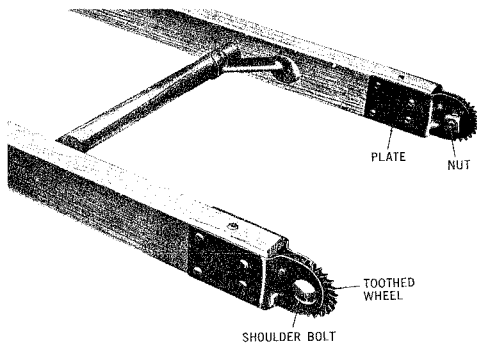

Fig. 43 — Wheel Spurs
**14.08** To adjust a worn or dull wheel spur, remove the nut, lockwasher and shoulder bolt. Rotate the wheel 90 degrees, bringing the unused portion of the wheel in position for use. Replace the bolt with the shoulder properly seated in the plate and wheel. Replace the lockwasher and the nut and tighten securely. (See Fig. 43) Do not change the position of a wheel spur on only one side; always change both, even though one is not badly worn.